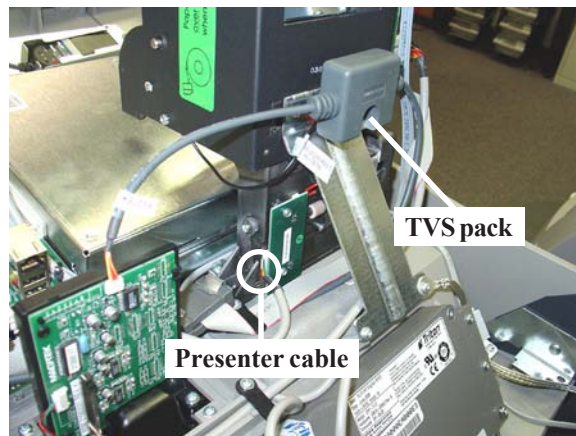

Figure 3. Disconnect presenter cable and TVS pack.
3. Next, disconnect the printer presenter cable shown in Figure 3.
4. Using a phillips screwdriver, remove the screw that secures the TVS pack from the printer bracket shown in Figure 3. Retain the screw and lay the TVS pack down and out of the way of the strut screws.